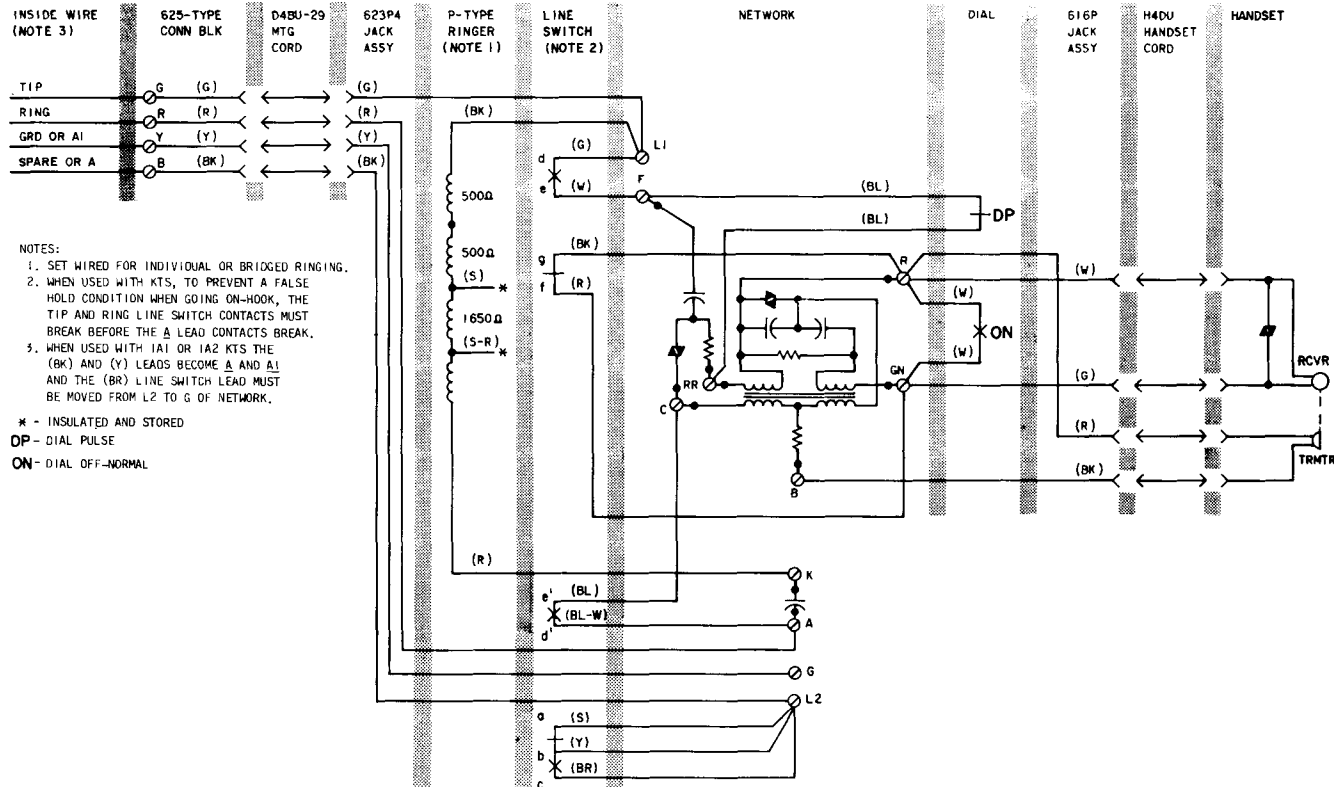

Fig. 3—902A1 Telephone Set, Connections
3.02 The internal connections for the 902A1 and 2902A1 telephone sets, for nonkey system use, are shown in Fig. 3 and 4, respectively.
3.03 Connections for 1A KTS do not require any set modifications and are the same as Fig. 3 and 4.